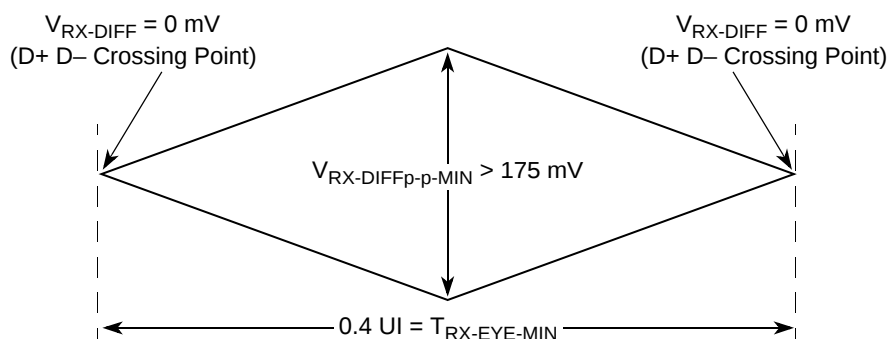

Figure 49. Minimum Receiver Eye Timing and Voltage Compliance Specification
2. Specified at the measurement point and measured over any 250 consecutive UIs. The test load in Figure 50 must be used as the RX device when taking measurements (also see the receiver compliance eye diagram shown in Figure 49). If the clocks to the RX and TX are not derived from the same reference clock, the TX UI recovered from 3500 consecutive UI must be used as a reference for the eye diagram.
The RX eye diagram in Figure 49 is specified using the passive compliance/test measurement load (see Figure 50) in place of any real PCI Express RX component.
Note: In general, the minimum receiver eye diagram measured with the compliance/test measurement load (see Figure 50) is larger than the minimum receiver eye diagram measured over a range of systems at the input receiver of any real PCI Express component. The degraded eye diagram at the input receiver is due to traces internal to the package as well as silicon parasitic characteristics which cause the real PCI Express component to vary in impedance from the compliance/test measurement load. The input receiver eye diagram is implementation specific and is not specified. RX component designer must provide additional margin to adequately compensate for the degraded minimum receiver eye diagram (shown in Figure 49) expected at the input receiver based on some adequate combination of system simulations and the return loss measured looking into the RX package and silicon. The RX eye diagram must be aligned in time using the jitter median to locate the center of the eye diagram.